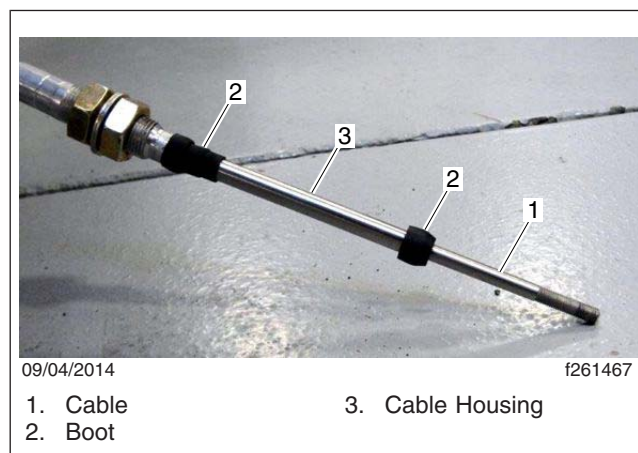

Fig. 4, Cable Boots
12. Remove the boots from the T-handle end of the new cable assembly. See Fig. 4.